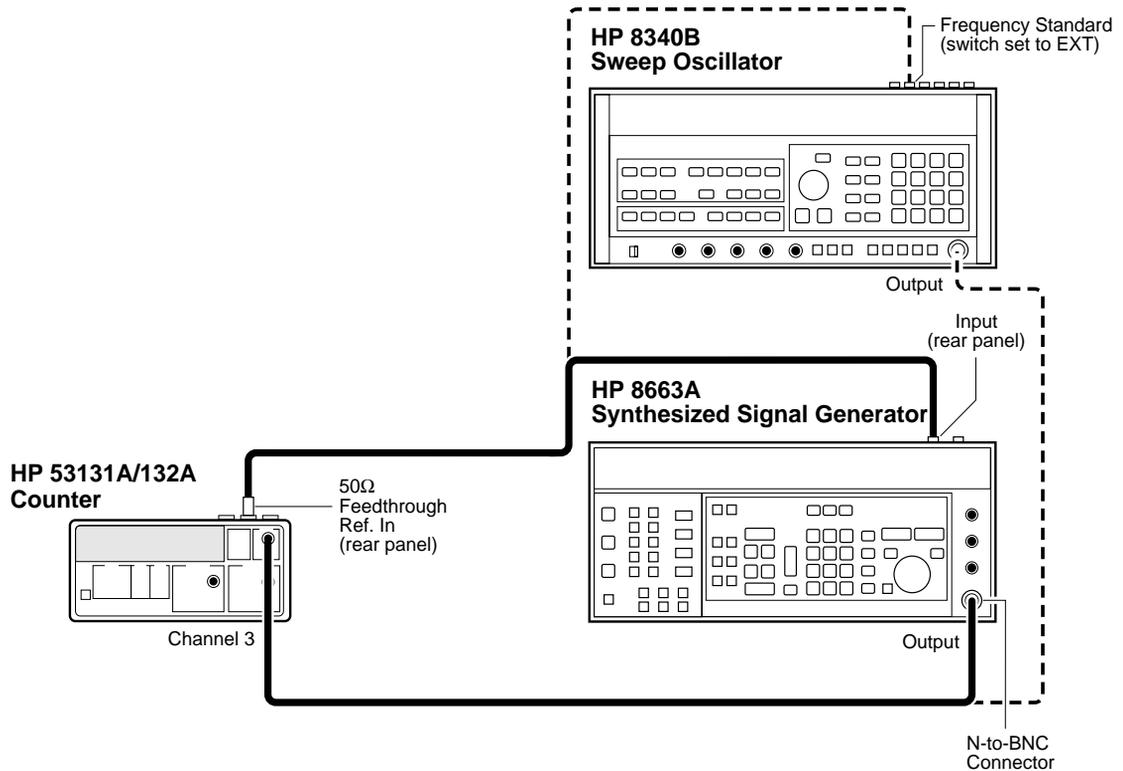

Figure 1-9. Option 030/050/124 Channel 3 Frequency Sensitivity and Accuracy Test Setup
- 1 Set the HP 8663B Synthesized Signal Generator to output a 2500 MHz, -40 dBm sine wave, and connect the signal to Channel 3 of the Counter as shown in Figure 1-9.
- 1 Disconnect the HP 8663A Synthesized Signal Generator from the Counter (see Figure 1-9), and connect the HP 8340B Sweep Oscillator to Channel 3 of the Counter.**
- 1 Connect equipment as shown in Figure 1-9.**
of the Counter as shown in Figure 1-9.**